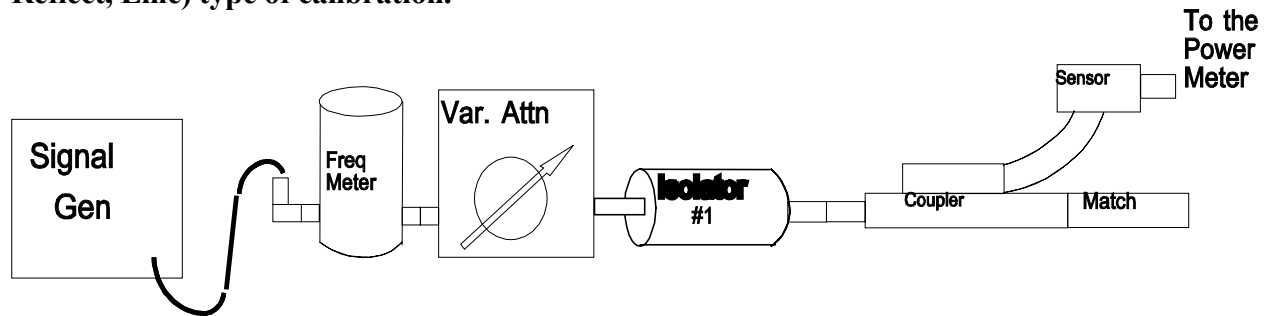

Figure 2: X-band coupler measurements of coupling and directivity.
- f. Remove isolator #2 and set up the equipment as shown in Figure 2 with a 10 dB coupler and a matched termination. Directional couplers direct some of the power coming in Port 1 to the curved arm. Amount of power directed is call coupling (a 3dB coupler would be a power splitter). The amount of power decrease coming out of Port 2 is the insertion loss. Terminate any "open" ends of the coupler with a matched impedance (wedge) to prevent reflections from occurring. Measure the coupling and Insertion loss at 10GHz and record on Data Sheet 3. Do these values agree with a 10dB coupler specification?